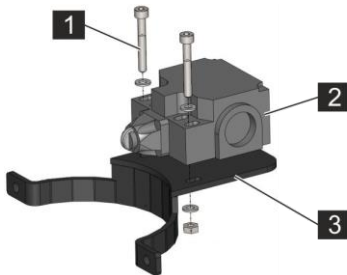

Fig. 96: Mounting the switch
1. ➤ Attach the switch (Fig. 96/2) with the screws (Fig. 96/1), washers (4 pcs) and nuts to the clamp (Fig. 96/3). (Do not tighten the screws yet.)